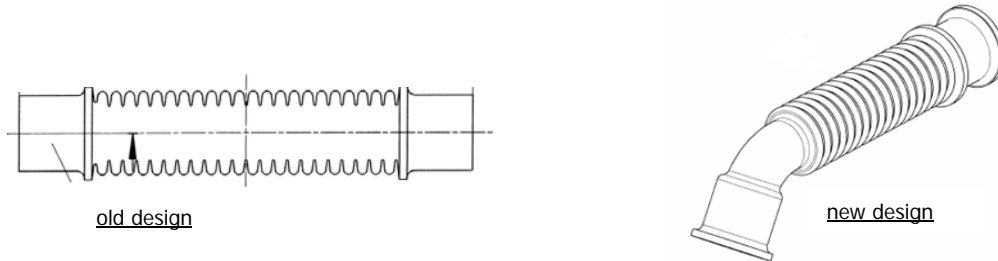

Figure 2: old and new oil separator hose design
- Exchange the oil separator hose – old design – by the new design with the part number E4A-53-100-501 Rev.010 (see Figure 2).